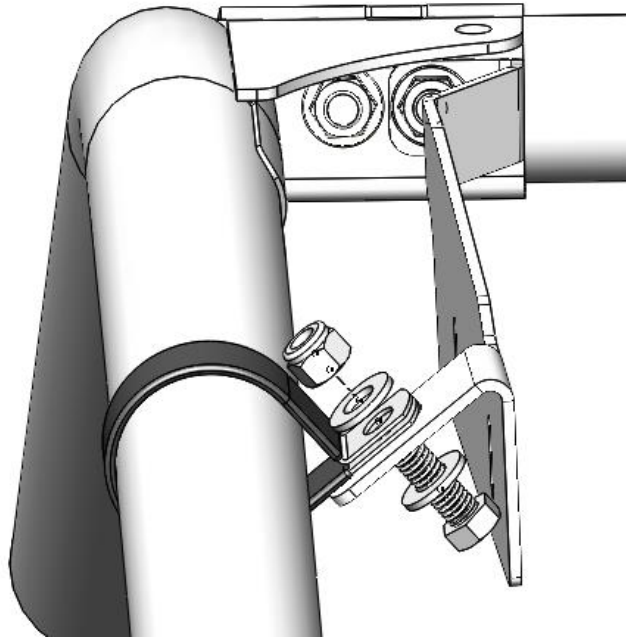

Figure 6: Mount the loop clamp to the bracket. Driver side shown. (Passenger side similar)
5. Use the supplied 3/8"-16 bolt, washers, and nyloc nut to secure the loop clamp to the mounting bracket. Loosely secure the nut, waiting to fully tighten it until the *Audio Mini* is in the desired position. See Figure 6. Note: Drive side shown. (Passenger side similar)
10. Tighten both loop clamp bolts to secure them to the frame and the *Audio Mini* mounting brackets. See Figure 6. Torque the bolts to 25 ft.-lbs.